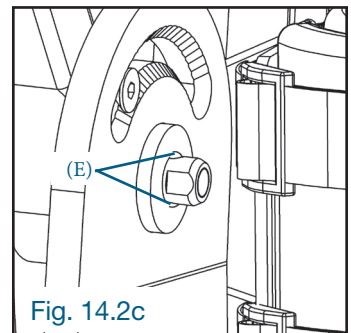

Fig. 14.2c
IMPORTANT: (Fig. 14.2c) For secure engagement, the detent balls (E) of the axle should protrude outside the receiving axis, and the internal rod should be level with the end of the axle.